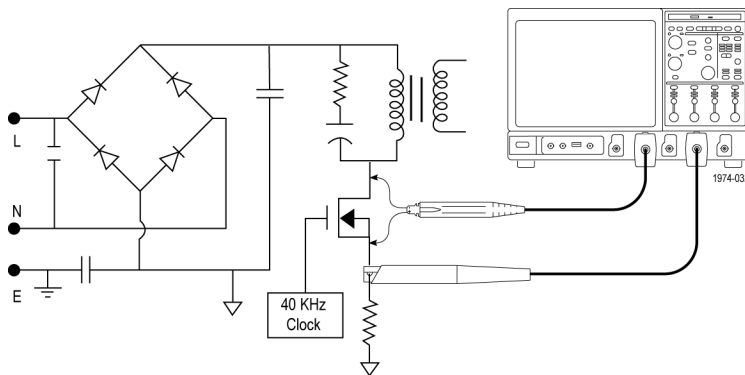

Figure 4: Power supply test points
1. Connect the differential probe across the switching device, and a current probe in series with the device. (See Figure 4.)